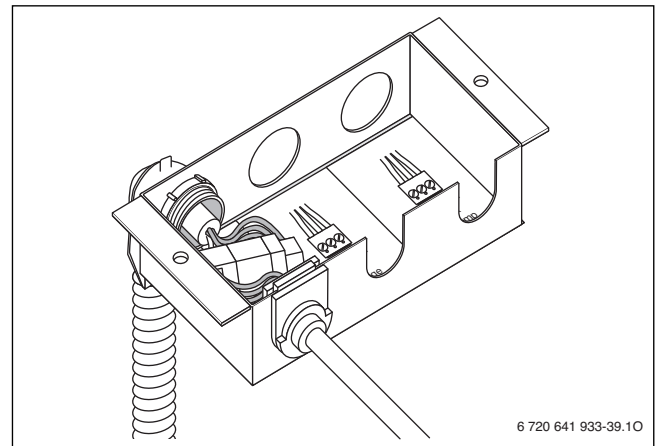

Fig. 56 Cable connected (mains power supply)
- ▶ Insert cable into the junction box as shown in Fig. 56.